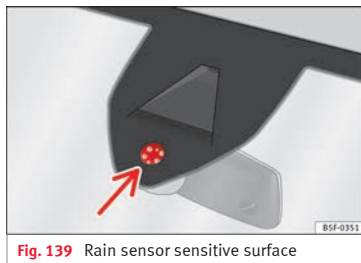

Fig. 139 Rain sensor sensitive surface
Possible causes of faults and mistaken readings on the sensitive surface » **Fig. 139** of the rain sensor include:
- Clean the sensitive surface of the rain sensor regularly and check the blades for damage » Fig. 139 (arrow).